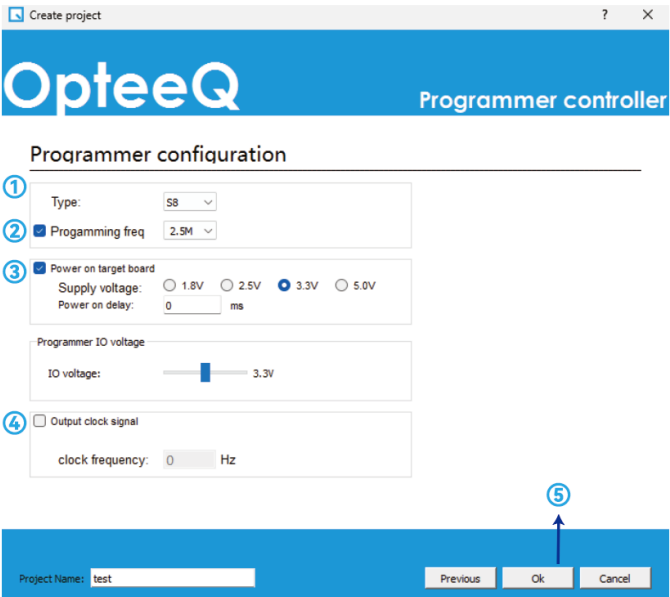

Figure 4.14 Step 4 - Project Creation Interface
4) Step 4: Configure the programmer (as shown in Figure 4.14).
Select the programmer model (as shown in Figure 4.14-①).
Check the programming rate of the programmer (default: 2.5 MHz) (as shown in Figure 4.14-②). Notes: In general, the value set does not exceed 5M as a high value may affect the stability of the signal.
To supply power to the target board, it is needed to check the check box before "Power Supply to the Target Board" (as shown in Figure 4.14-③). Notes: When the programmer does not supply power to the target board, please do not check the check box before "Power Supply to the Target Board".
The item in Figure 4.14-④ is unchecked as it is not used yet.
Finally, click "OK" (as shown in Figure 4.14-⑤) to start creating a project.